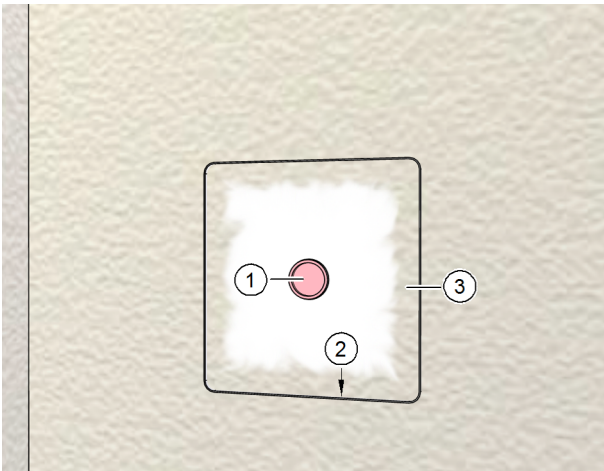

Fig. 20: Wall box plastered on the inside
- ▶ Remove the signal cover (item 1 in Fig. 20).
- ▶ Use a blade to score the plaster on the inside of the plastering trim (item 2 in Fig. 20).
- ▶ Carefully remove the plaster cover (item 3 in Fig. 20).